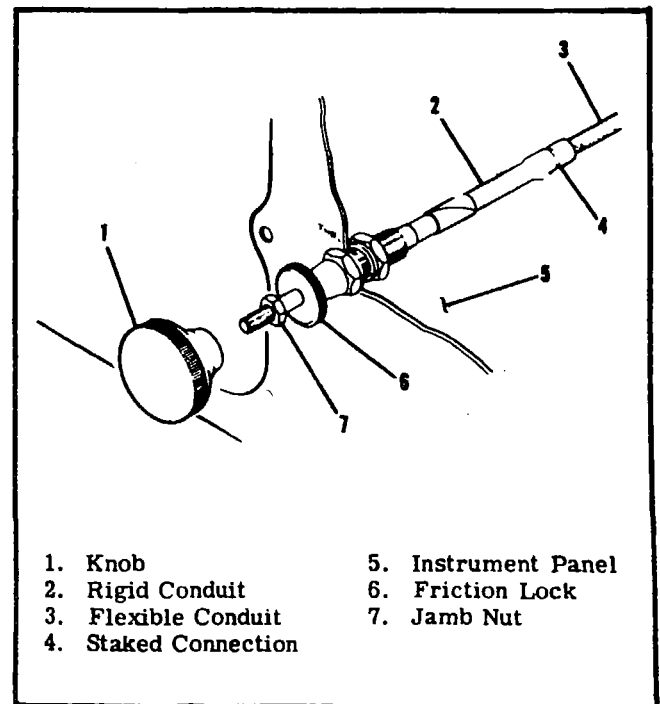

Figure 12-5. Throttle Control
Before rigging the throttle control on aircraft with the type control shown in figure 12-5, check that staked connection (4) between rigid conduit (2) and flexible conduit (3) is secure. If any indications of looseness or breakage is apparent, replace the throttle control before continuing.
- b. Screw jamb nut (7) all the way down (clockwise) and reinstall the throttle knob. Screw the knob securely against the jamb nut. Do NOT back the jamb nut out. This will prevent bottoming and possible damage to the staked connection.
- c. Disconnect the throttle control at the engine, push the control in until jamb nut hits friction lock (6) while the friction lock is loose, then pull the control out approximately 1/8 inch for cushion.
- d. Tighten friction lock (6), being careful not to change the position of the throttle.